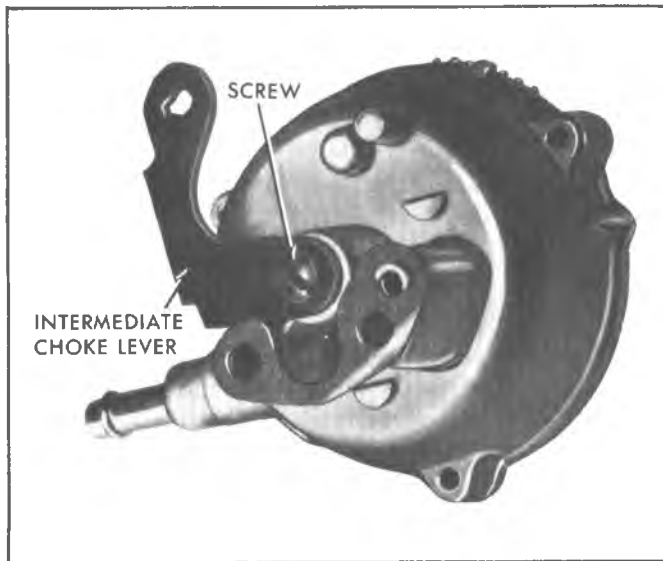

Fig. 9C—Choke Housing
4. Remove screw from end of intermediate choke shaft and remove intermediate choke lever from shaft (Fig. 9C). Remove inner choke coil lever and shaft assembly from choke housing. Remove rubber dust seal from inside choke housing.
3. Install new rubber dust seal into cavity inside choke housing (Fig. 9C). Lip on seal faces towards carburetor after the housing is installed.